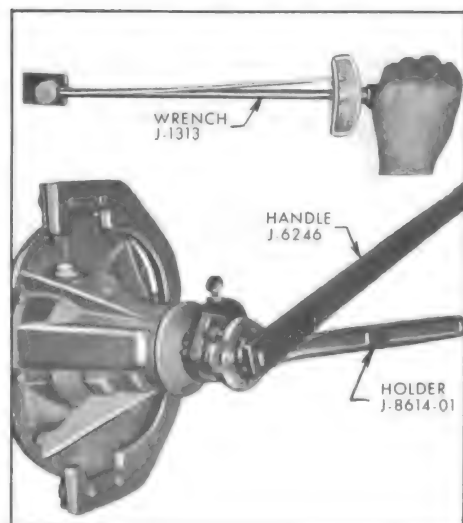

Figure 6-30—Tightening Pinion Nut
6. Fill space between lips of oil seal with wheel bearing grease and apply a thin coat of the same grease on seal surface of pinion flange. Install pinion flange on pinion by tapping with a soft hammer until a few pinion threads project through the flange. Install pinion washer and nut. Hold pinion flange with Holder J-8614-01. (On 4700, hold pinion flange with Holder J-8614-01 and Adapters J-21619.) Torque pinion nut to 80 ft. lbs. using Torque Wrench J-1313 on outer end of Handle J-6246. (This amounts to an actual 250 ft. lbs. torque at nut.) See Figure 6-30.